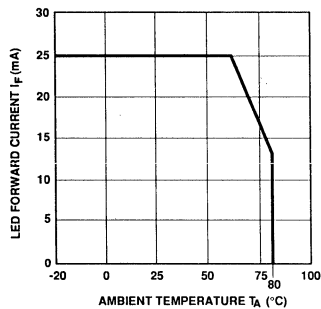

Figure 9. LED Forward Current vs. Ambient Temperature.
1. Derate absolute maximum ratings with ambient temperatures as shown in Figures 9, 10 and 11.